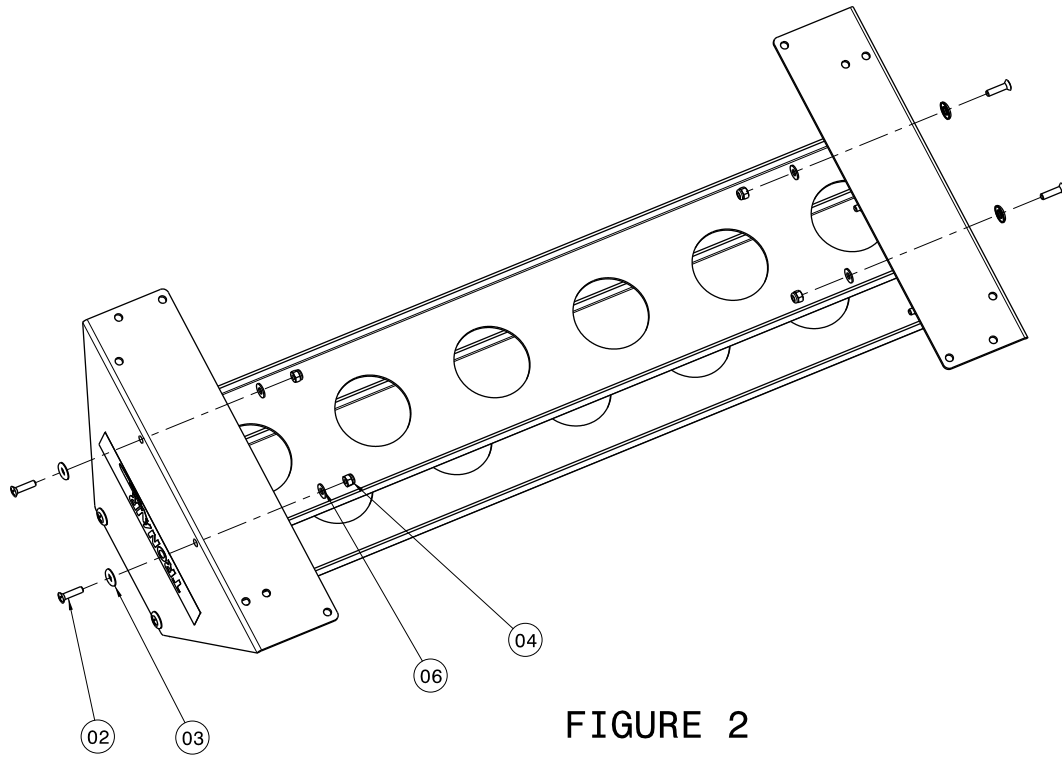

FIGURE 2
Add the socket extension to the socket wrench and assemble the second item 8 with items 2, 3, 4, and 6 as shown in Figure 2.